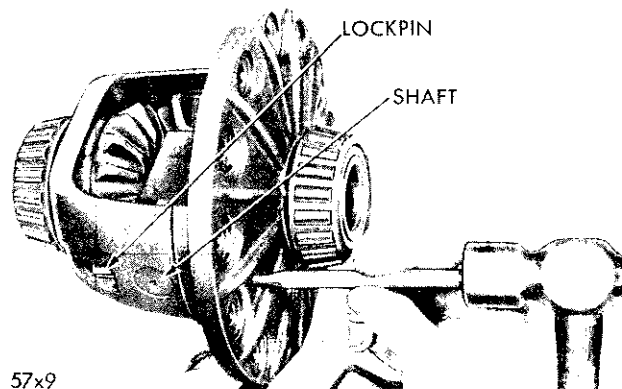

Fig. 16—Installing Pinion Shaft Lock Pin
- (2) Through the large side opening of the case, insert each of the two pinion and thrust washers exactly 180 degrees opposite each other so the pinion shaft holes of the two gears and thrust washers are properly aligned.
- (3) Rotate the gears 90 degrees so the pinion shaft holes of the case are in exact alignment with the holes in the two thrust washers and pinions.
- (4) From the pinion shaft lock pin hole side of the case, insert the slotted portion of the pinion shaft through the case, the conical thrust washer and through one pinion gear only.
- (5) Install the thrust block between the two pinion gears. The thrust block must be installed so the hole in the block is aligned with the pinion shaft and with the smoothly ground sides facing the two side gears.
- (6) While keeping all of these parts in proper alignment, push the pinion shaft on through until the locking pin hole in the pinion shaft is in exact alignment with its respective hole in the case. Install pinion shaft lock pin through hole in the case from the pinion shaft side of the ring gear flange (Fig. 16).
- (7) Make certain the contacting surfaces of the ring gear and the case flange are clean and free from any burrs. Position the ring gear on the case; aligning the threaded holes of the ring gear with those in the case flange.
- (8) Install the ring gear cap screws through the case flange and into the ring gear. After all cap screws are properly started, tap the gear onto the flange.
- (9) Position the unit between the brass jaws of vise and alternately tighten each cap screw